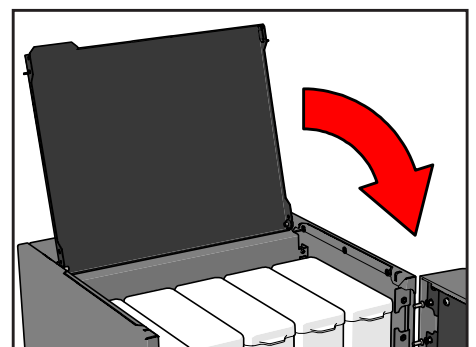

Figure 58.
7. Close the top cover (see Figure 58).